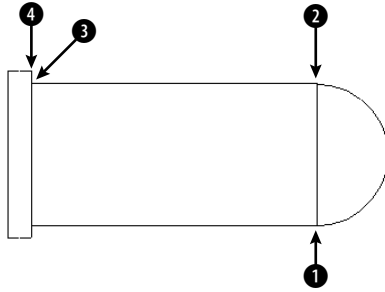

Figure 4-26: Drawing a steam boiler with an endpoint running object snap.
7. Start the ARC command. At the Specify start point of arc or [Center]: prompt, pick the endpoint at **1**, shown in Figure 4-26. (Look for the marker and AutoSnap tooltip.)
8. At the Specify second point of arc or [Center/End]: prompt, right-click and choose End. Pick the endpoint at **2**, shown in Figure 4-26.
10. Start the LINE command and at the Specify first point: prompt, pick the endpoint at **2** in Figure 4-26.
13. Start the LINE command. At the Specify first point: prompt, place the cursor 0.25 units above **3** in Figure 4-26 (at 2,5.25). If you see the endpoint marker for the nearby line, press F3 to turn off the running OSNAP temporarily. Pick point 2,5.25.
Specify next point or [Close/Undo]: *(If you turned off OSNAP in Step 13, press F3 to turn it on again.) Pick the endpoint at 4 in Figure 4-26.*